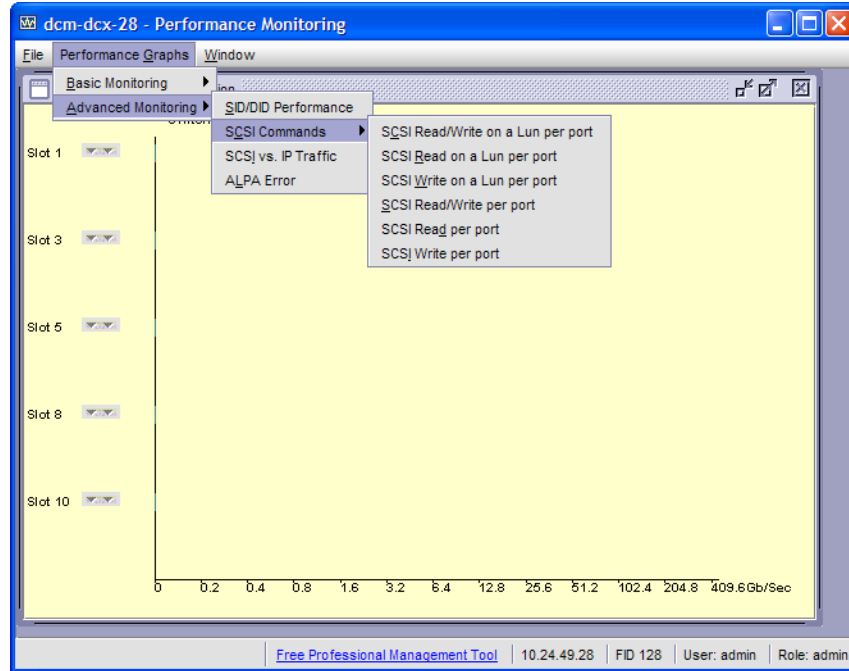

FIGURE 20 Accessing performance graphs
- For the Brocade DCX 8510-8, DCX 8510-4, and the DCX and DCX-4S enterprise-class platforms, slot numbers are displayed with expansion arrows next to them, as shown in Figure 20 on page 107. Click the arrows to expand and contract the list of ports per slot.
Figure 20 shows how to access the list of Advanced Performance Monitoring graphs using Web Tools with the EGM license. This example displays the graphs available in the Performance Monitoring window with the Advanced Performance Monitoring license installed. Note that the slot number is identified.